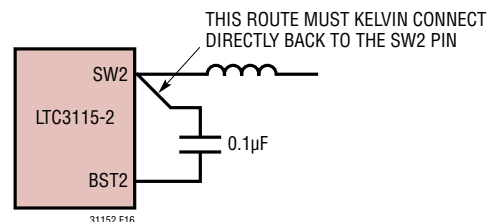

Figure 16. Kelvin BST Connections
8. Connections from the BST1 and BST2 capacitors must Kelvin directly back to the respective SW pin as shown in Figure 16.